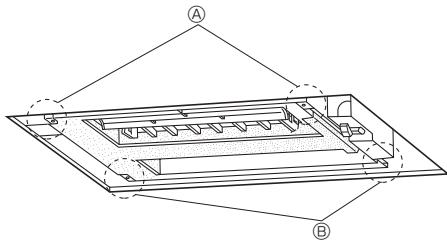

Fig. 5-2
- (A) Points for securing the grille
- (B) Points for securing the grille
- (C) Indoor unit
- (D) Ceiling surface
- (E) Drainage pan
- (F) Places for securing front grille
- (G) Make sure these surfaces are flush with each other (0 - 3 mm).
5.2. Checks before setting in place (Fig. 5-2, 3)